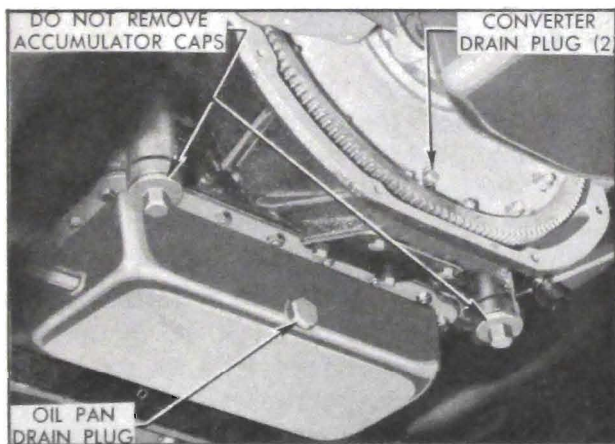

Figure 1-15—Dynaflo Transmission Drain Plugs
2. Loosen one converter drain plug, through opening in flywheel, then turn flywheel until opposite drain plug is straight down and remove this plug to allow converter to drain completely. See figure 1-15.
3. Remove drain plug and allow oil pan to drain completely. *Do not remove accumulator caps*. See figure 1-15.
5. Put 3 quarts of specified oil (subpar. a.) in transmission. With engine idling and transmission in Parking (P) complete the refilling